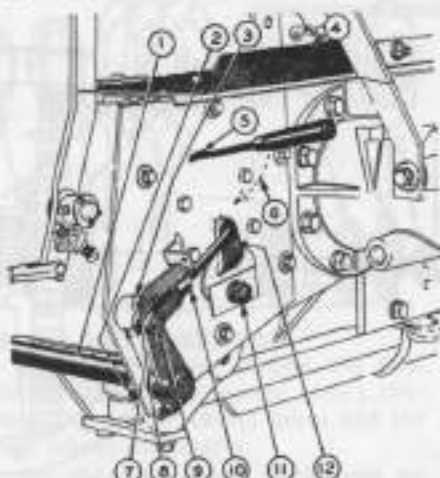
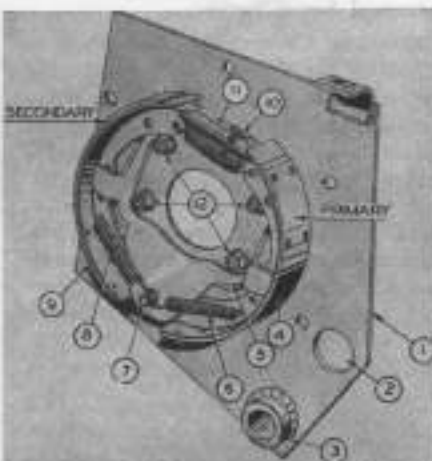

Fig. MH385—Typical Bendix shoe type brake controls as used on models 30, 30K, 44, 44D, 44K, 44LP, 44(6), 55, 55D, 55K, and 55LP.
Fig. MH386—Inside view of Bendix shoe type brakes as used on models 30, 30K, 44, 44D, 44K, 44LP, 44(6), 55, 55D, 55K and 55LP.
285. MINOR ADJUSTMENT. Jack up rear end of tractor and make certain that pedals are fully released and linkage is not binding. Insert a screw driver or special brake adjusting tool in star wheel hole (5—Fig. MH385) and turn star wheel to obtain a pedal free travel of ½-¾ inch. Check both pedals for equal travel and readjust to equalize, if necessary.
286. MAJOR ADJUSTMENT. Support rear of tractor and disconnect brake linkage from cam lever (12—Fig. MH385). Loosen anchor pin nut (11) not more than one full turn. Loosen the six cap screws which retain the brake plate (1—Fig. MH386) to transmission housing (or brake mounting flange assembly on 55 series) until brake plate is free to move. On some models, it will be necessary to
block up front end of platform to allow sufficient room for the brake plate to move. Insert a screw driver or special brake adjusting tool in star wheel hole (5—Fig. MH385) and turn star wheel until it is impossible to turn wheels by hand. Tighten the anchor pin locknut and the six brake plate retaining cap screws securely. Reposition platform (if platform was moved). Pull brake pedals back against platform, and while holding brake cam lever (12) fully forward by hand pressure only, adjust brake linkage until pin (9) will freely slide into position.